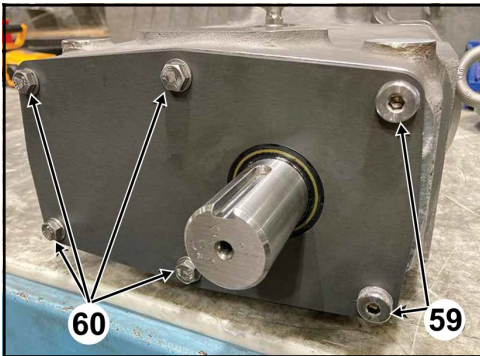

Figure 248 - Install fasteners
9. Install the two socket head shoulder bolts (Figure 248, item 59) in the two holes by the drive shaft, and the hex head cap screws (item 60) in the remaining holes. Snug down the bolts/screws by hand. (There are four hex head cap screws on all but the 220-UTS; six on the 220-UTS.)